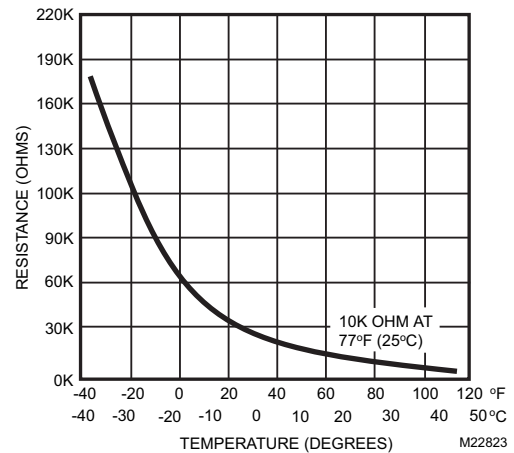

Fig. 40. 10K ohm sensor resistance versus temperature.
3. Place thermostat back on subbase by aligning terminal screw blocks with the pins on the back of the thermostat. (See Fig. 40.)
To verify sensor resistance, remove one wire from one of C7189U wiring terminals. Use an ohmmeter to measure the resistance across the sensor. Then compare sensor accuracy with the temperature/resistance curve in Fig. 40.